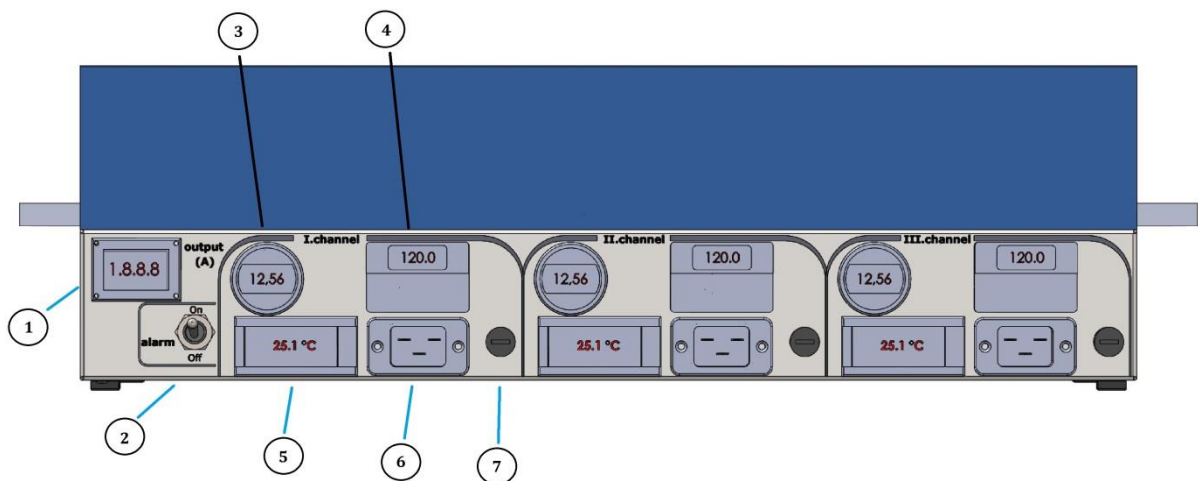

Fig. 1: front device panel
2. To switch between controllable parameters on input measuring display (4 - fig. 1) use button "SEL".
3. It must be made sure, monitoring output voltage displays (3 - fig. 1), that output module voltages are equal, specifically voltage differences are not higher than 1% of nominal output voltage.
6. The device is provided with a preventive sound notification system in case of module over-heating. The system reacts to temperature of any modules' case exceeding 80 - 85 °C. If needed, turn the switch (2 - fig. 1) on the front panel to "OFF" position to disable sound notification. In case of overheating - provide additional heatsink cooling, for example, by using ventilator's air flow.